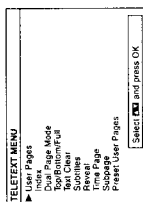

Fig. 36.
- 1 Press MENU. The menu will be superimposed on the teletext display. (See Fig. 36.)